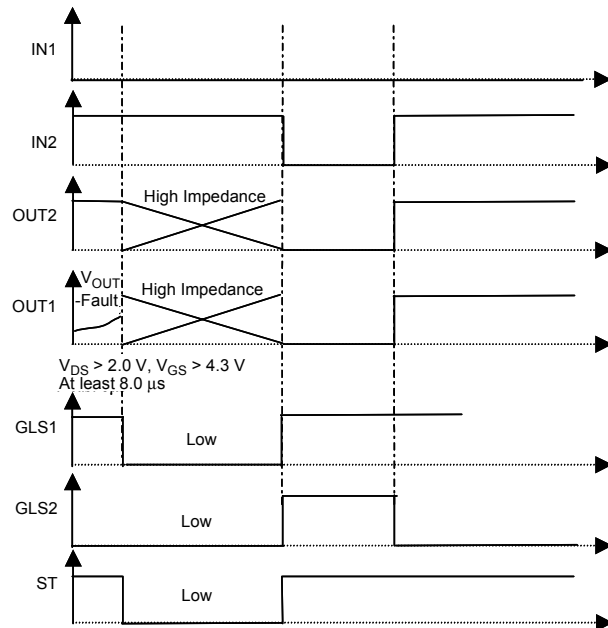

Figure 22. Overload on Low-Side 1
- When a short to  $V_{BAT}$  of one of the low-side MOSFETs occurs, both outputs are opened to prevent the motor from running. Once the low-side overcurrent is removed, the input INn of the output that experienced the fault must be reset in order to recover the normal operation mode. Figure 22. Overload on Low-Side 1, page 18, shows an example. If an overload happens in low-side 1, OUT1 and OUT2 are both put in high impedance. IN2 must be reset to recover normal mode.